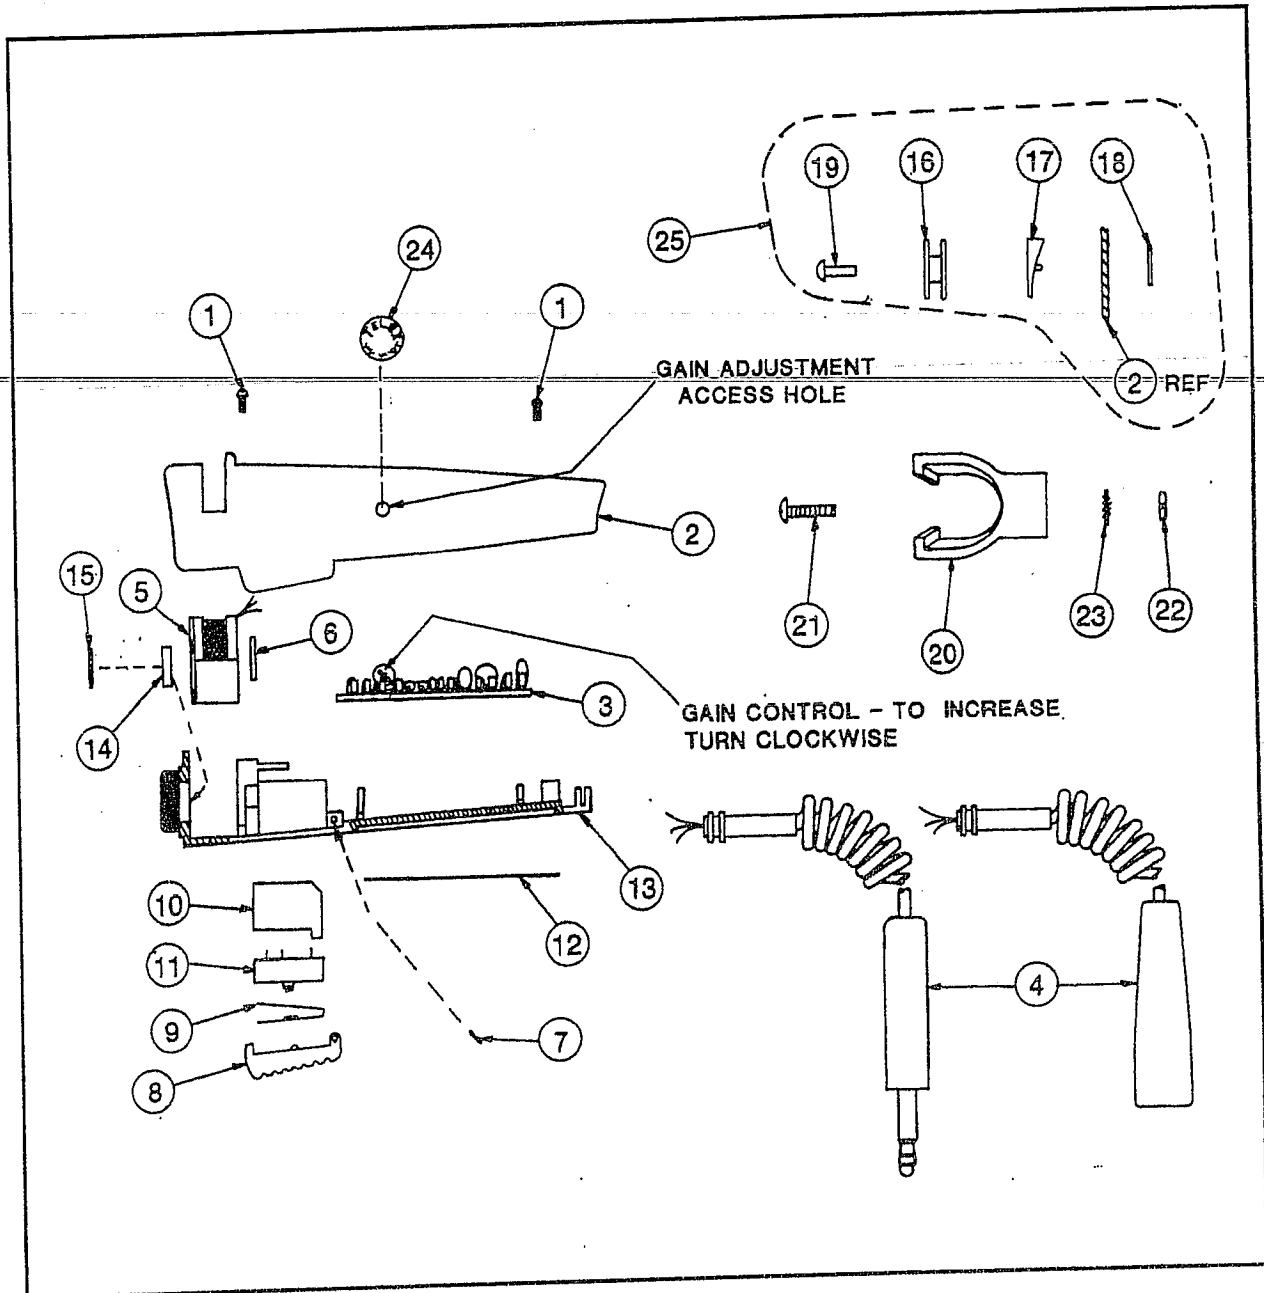

Figure 3
Microphone Parts List (Ref Figure 3)
2. Remove gain adjustment access cover (Figure 3, item 24).